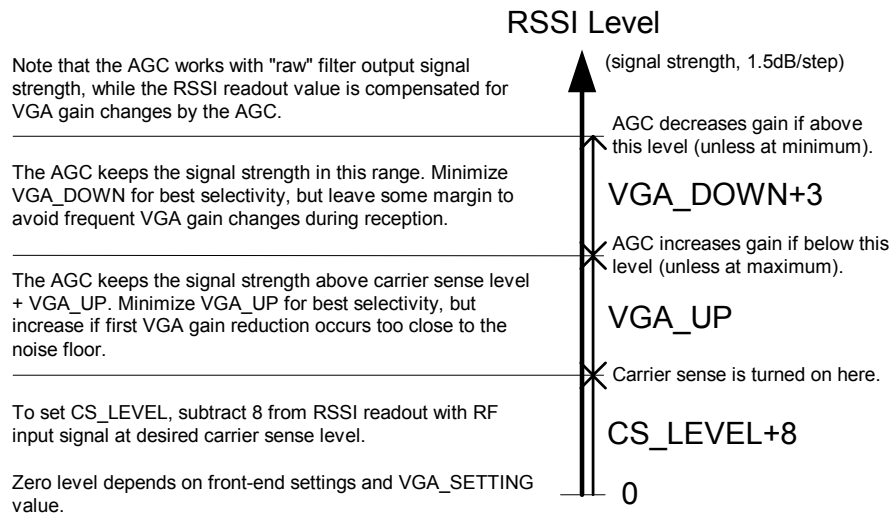

Figure 18. Relationship between RSSI, carrier sense level, and AGC settings *CS_LEVEL*, *VGA_UP* and *VGA_DOWN*
A digital RSSI is used to measure the signal strength after the ADC. The `CS_LEVEL[4:0]` in the `VGA4` register is used to set the nominal operating point of the gain control (and also the carrier sense level). Further explanation can be found in Figure 18.
5. If desired, adjust the *VGA_UP* and *VGA_DOWN* settings according to the explanation in Figure 18.
`CS_LEVEL[4:0]` must be changed accordingly to maintain the same absolute carrier sense threshold. See Figure 18 for an explanation of the relationship between RSSI, AGC and carrier sense settings.